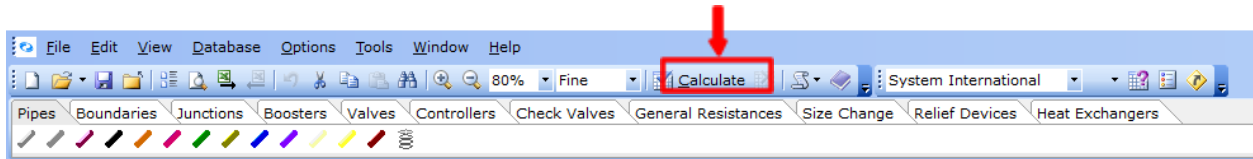

Figure 39: Calculate Button.
38. Calculate the model using the *Calculate* button located at the top of the flowsheet (Figure 39):